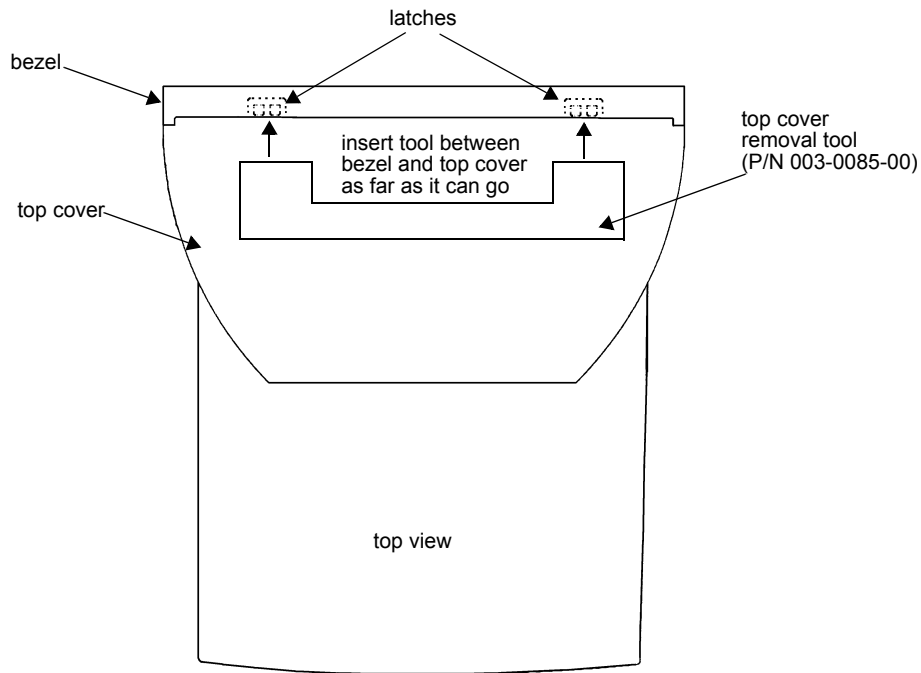

Figure 4-3: Top cover removal
- a. Locate the two latches that hold the bezel and top cover together (*Figure 4-3*).
- b. Position the top cover removal tool next to the two latches (*Figure 4-3*).